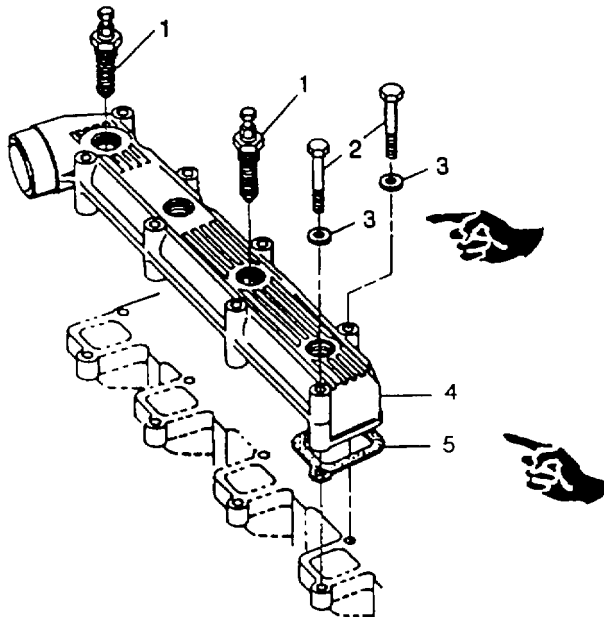

FIGURE 3-2. Intake Manifold
- Tag and disconnect electrical leads from heater plugs (1, FIGURE 3-2).
- If damaged or defective, remove heater plugs (1) from manifold.
- Remove eight bolts (2) and eight washers (3) securing intake manifold (4); remove manifold (4) and four gaskets (5). Discard gaskets (5).
- Install new or tested heater plugs (1, FIGURE 3-2) in manifold (4).
- Clean intake manifold (4) and cylinder head mating surfaces of any traces of old gasket.
- Position four new gaskets (5) and intake manifold (4) on cylinder head.
- Install eight washers (3) and eight bolts (2). Tighten bolts to 78 in-lbs (8.8 Nm).